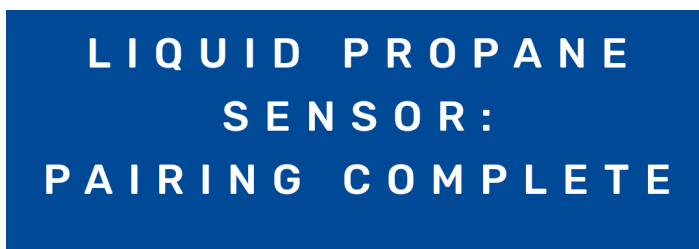

Fig.7
4. Pairing is now complete (Fig.7) Press “continue to app” to set alerts.